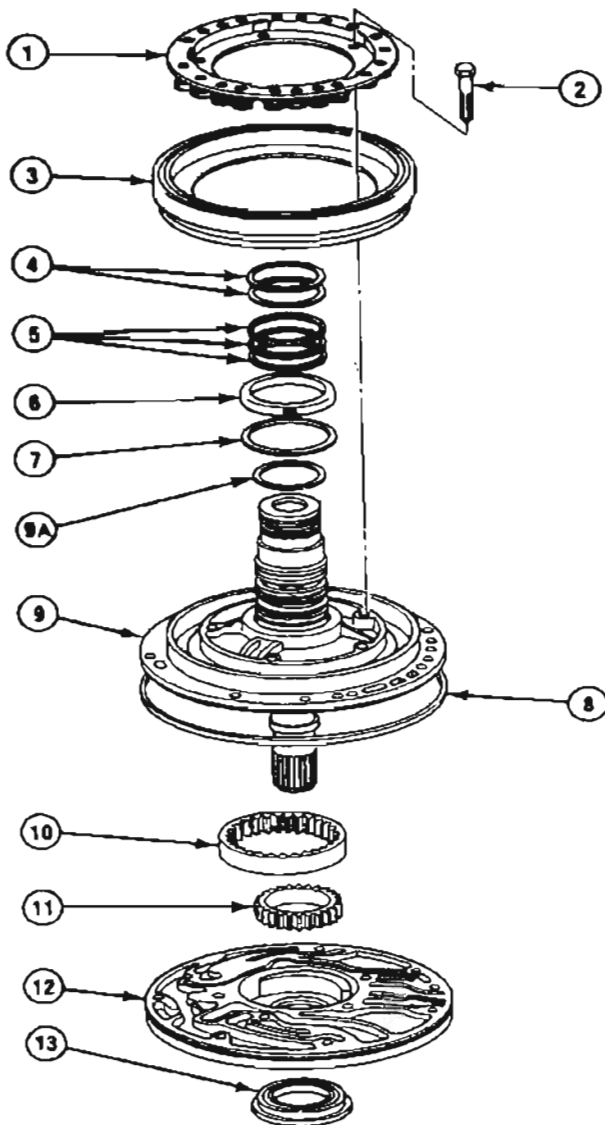

Figure 47 Oil Pump Assembly
1. Place stator shaft side of pump assembly through hole in bench. Remove five (5) pump cover to body attaching bolts. *See Figure 47.*
2. Remove intermediate clutch return spring seat retainer, springs and the intermediate clutch piston assembly. *See Figure 47.*
3. Remove intermediate clutch piston inner and outer seals. *See Figure 47.*
4. Remove three (3) direct clutch to pump hub oil rings. Remove pump cover to direct clutch drum needle thrust bearing. Inspect the two (2) forward clutch to pump hub teflon oil seals rings, (come rings will be solid new type rings will be scarf cut for easier assembly with no expander ring behind) but do not remove them unless they are damaged. If replacement is necessary use two metal hook type service replacement rings. *See Figure 47.*
8. Remove pump outside diameter to case square cut "O" ring seal. *See Figure 47.*
4. Install intermediate clutch piston new inner and outer seals. *See Figure 47.*
6. Install spring retainer and install five (5) attaching bolts, finger tight. *See Figure 47 and 46.*
9. Install pump outside diameter to case square cut seal. *See Figure 47.* Use new seal if necessary.
10. Install three (3) direct clutch to pump hub scarf cut oil seal rings. Inspect two (2) forward clutch to pump hub oil seal rings, (some rings will be solid new
type rings will be scarf cut for easier assembly with no expander ring behind) for service if rings require replacement use hook type cast iron rings. *See Figure 47.*